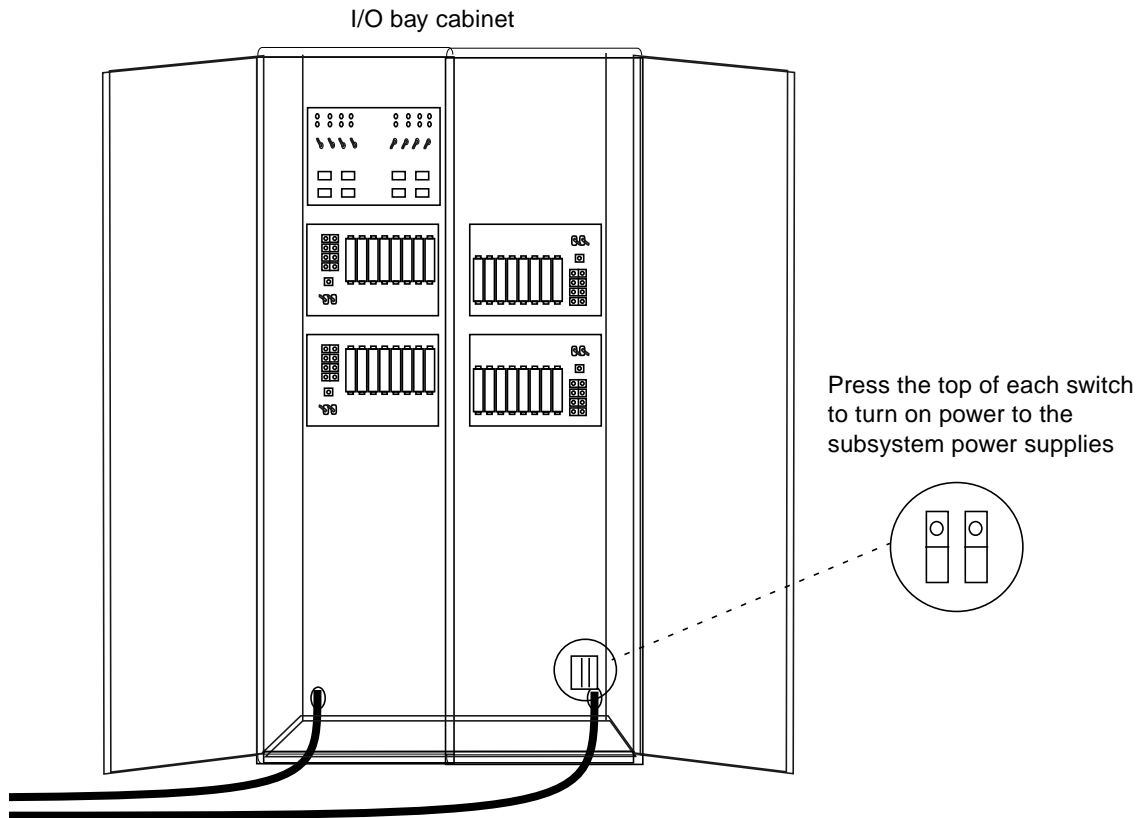

FIGURE 7-8 AC Box Power Switches
11. **Open the I/O Bay cabinet doors. Just above the right power cord are two switches labeled DSP1 and DSP2. Press the top of the switch to throw these to ON. See FIGURE 7-8. These supply power to the dual DC supplies for each subsystem. The LED in each switch will light.**